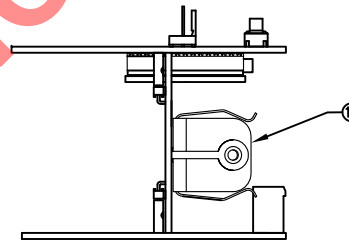
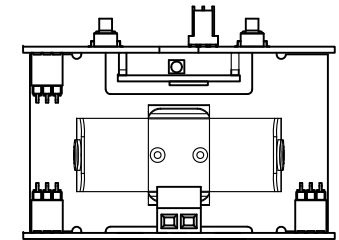

FIGURE 05A
FIGURE 05B
- NOTE: REFER TO 114606-00 GENERAL PRINTED CIRCUIT BOARD ASSEMBLIES FOR REQUIREMENTS. THE FINAL PCA ASSEMBLY SHOULD BE CONSTRUCTED AS IN FIGURE 05A WHEN VIEWED FROM THE EDGE-ON VIEW OF THE BATTERY PCA WHEN THE BATTERY BRACKET (ITEM 16) IS ON THE RIGHT, AND AS FIGURE 05B WHEN VIEWED FROM THE SIDE THE BATTERY BRACKET (ITEM 16) IS MOUNTED.